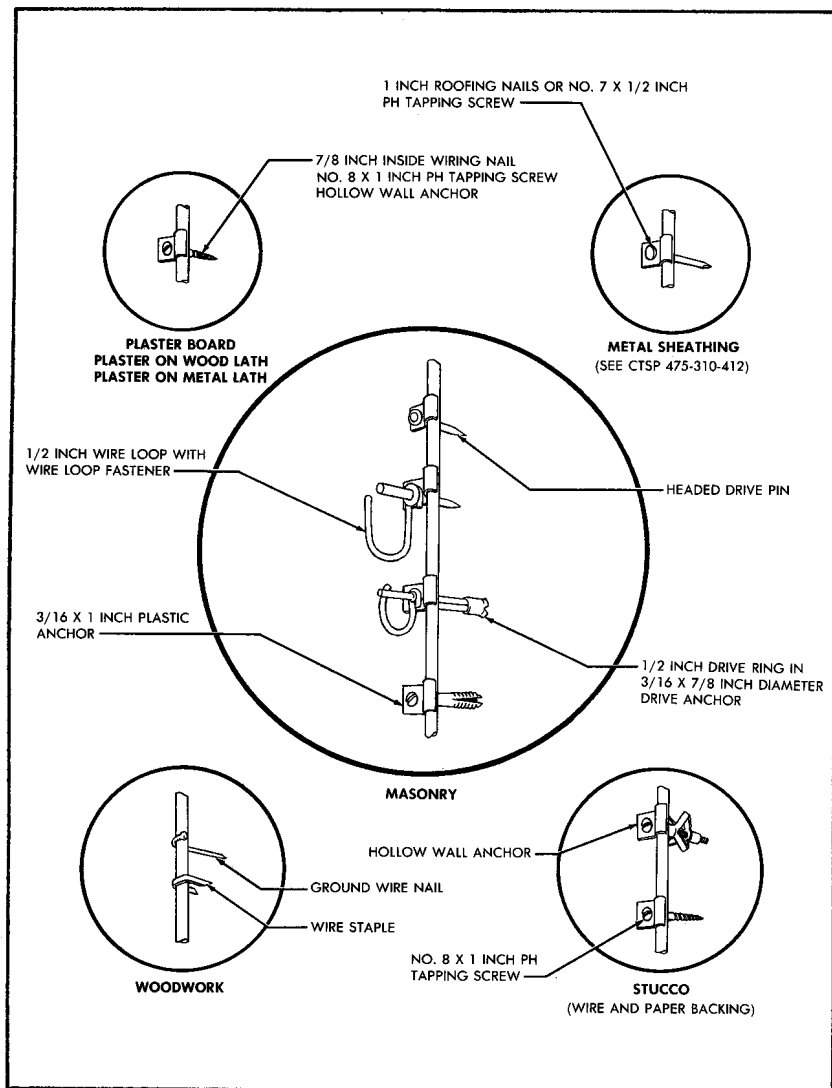

FIGURE 1. Fasteners for Ground Wire
3.01 Fasteners (Figure 1): Space ground wire fasteners as follows:
5.01 Drive Rings (Figure 1): Drive rings are formed steel loops having a pointed shaft suitable for hammer-driven attachment to wood or masonry surfaces. On wood surfaces, attach drive rings to beams or studding (to avoid injury below the 6-foot level use bridle rings). On masonry surfaces, use with drive anchors. Table G shows sizes of rings and anchors.
5.02 Wire Loop (Figure 1): Wire loops are formed sections of wire used with wire loop fasteners as an intermediate support for station wires and inside wiring cables attached to masonry surfaces (to avoid injury below the 6-foot level use bridle rings). Table H shows sizes of wire loops.